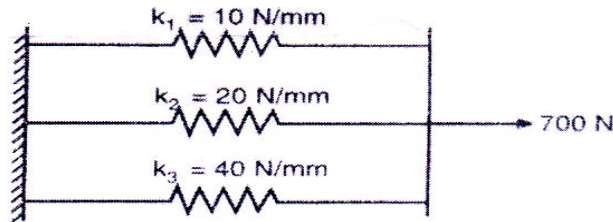

Figure 1
- b)** Figure 1 shows three springs connected in parallel. One end of the assembly is fixed and at the other end force of 700 N is applied. Determine the deflection of individual spring. [12]